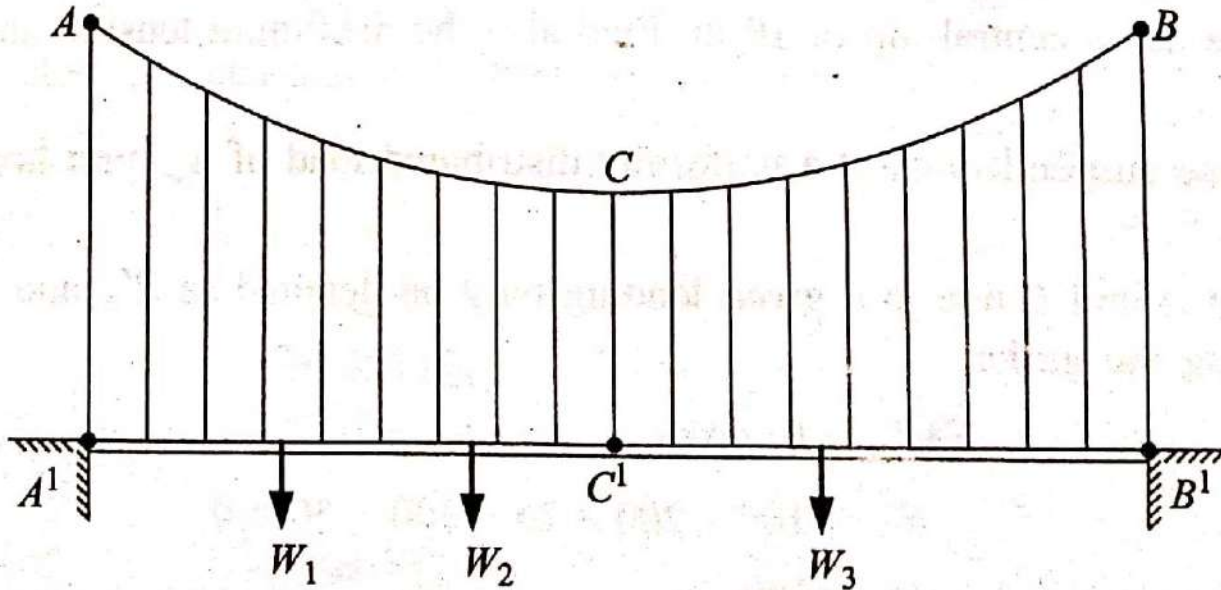

Figure 1: Typical suspension bridge with three-hinged stiffening girder
- Consider the suspension cable stiffened with a three-hinged girder as shown in Figure 1.